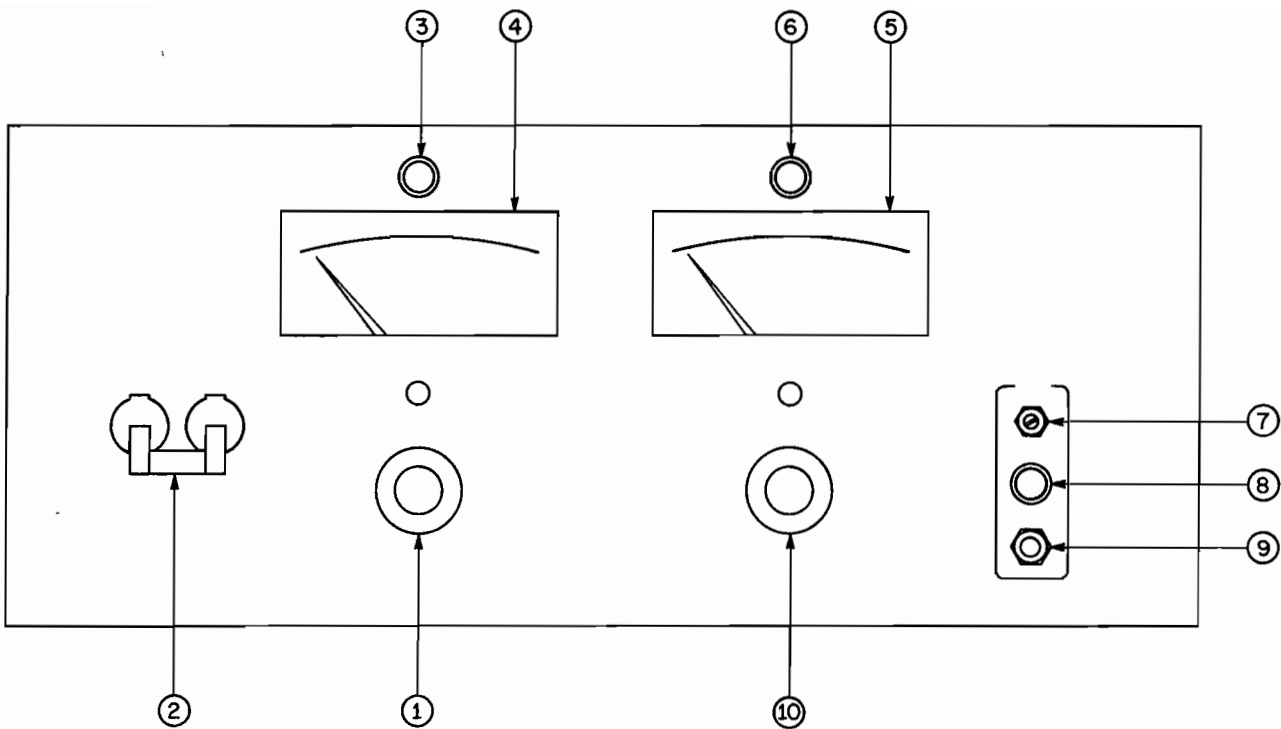
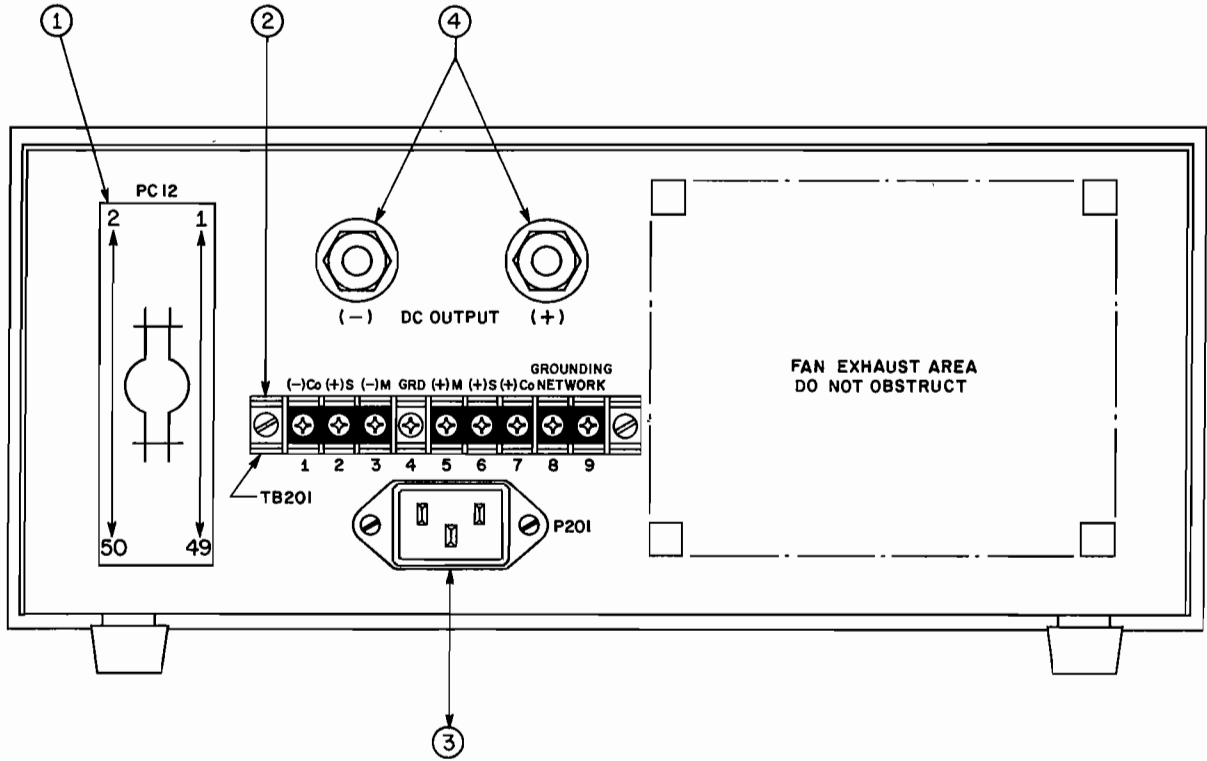

FIG. 2-2 CONTROL AND TERMINATIONS, ATE 3/4 RACK GROUP, FRONT.
FIG. 2-3 TERMINATIONS, ATE 3/4 RACK GROUP, REAR.
- a) FRONT PANEL: Refer to FIG. 2-2 and Table 2-2.
- b) REAR: Refer to FIG. 2-3 and Table 2-3.
2-9 A simple operating check after unpacking and before permanent installation is advisable to ascertain whether the power supply has suffered damage resulting from shipment. Refer to FIG. 2-2 and to FIG. 2-3 for the location of the operating controls and output terminals.
A resistor/capacitor network is connected from the negative monitor terminal to the metal chassis of the power supply. If this internal network is *not* desired, the connection to the chassis can be opened by removing the link (8) - (9) on TB201 (See FIG. 2-3 and refer to PAR. 3-9 for further explanation about the grounding network).